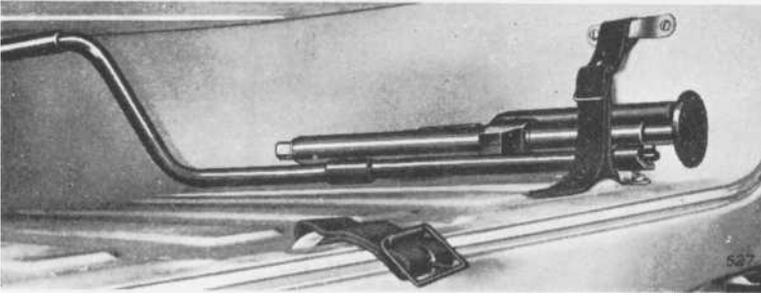

**Fig. 17.** Removing nave plate.
After removing the nave plate (Fig. 17), the wheel nuts (R.H. thread) can be detached with the wheel brace (2) (Fig. 20).